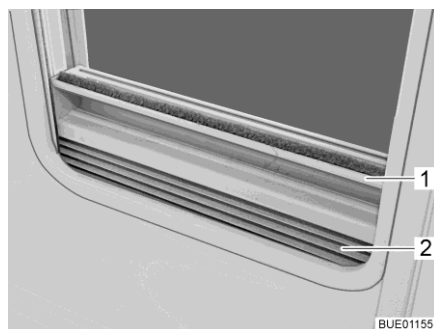

Fig. 58 Roman shade
**Closing:** ■ Grip the Roman shade (Fig. 58,2) in the middle of the holding bar (Fig. 58,1), pull it upwards and then release it at the desired height. The Roman shade will stay at this height.